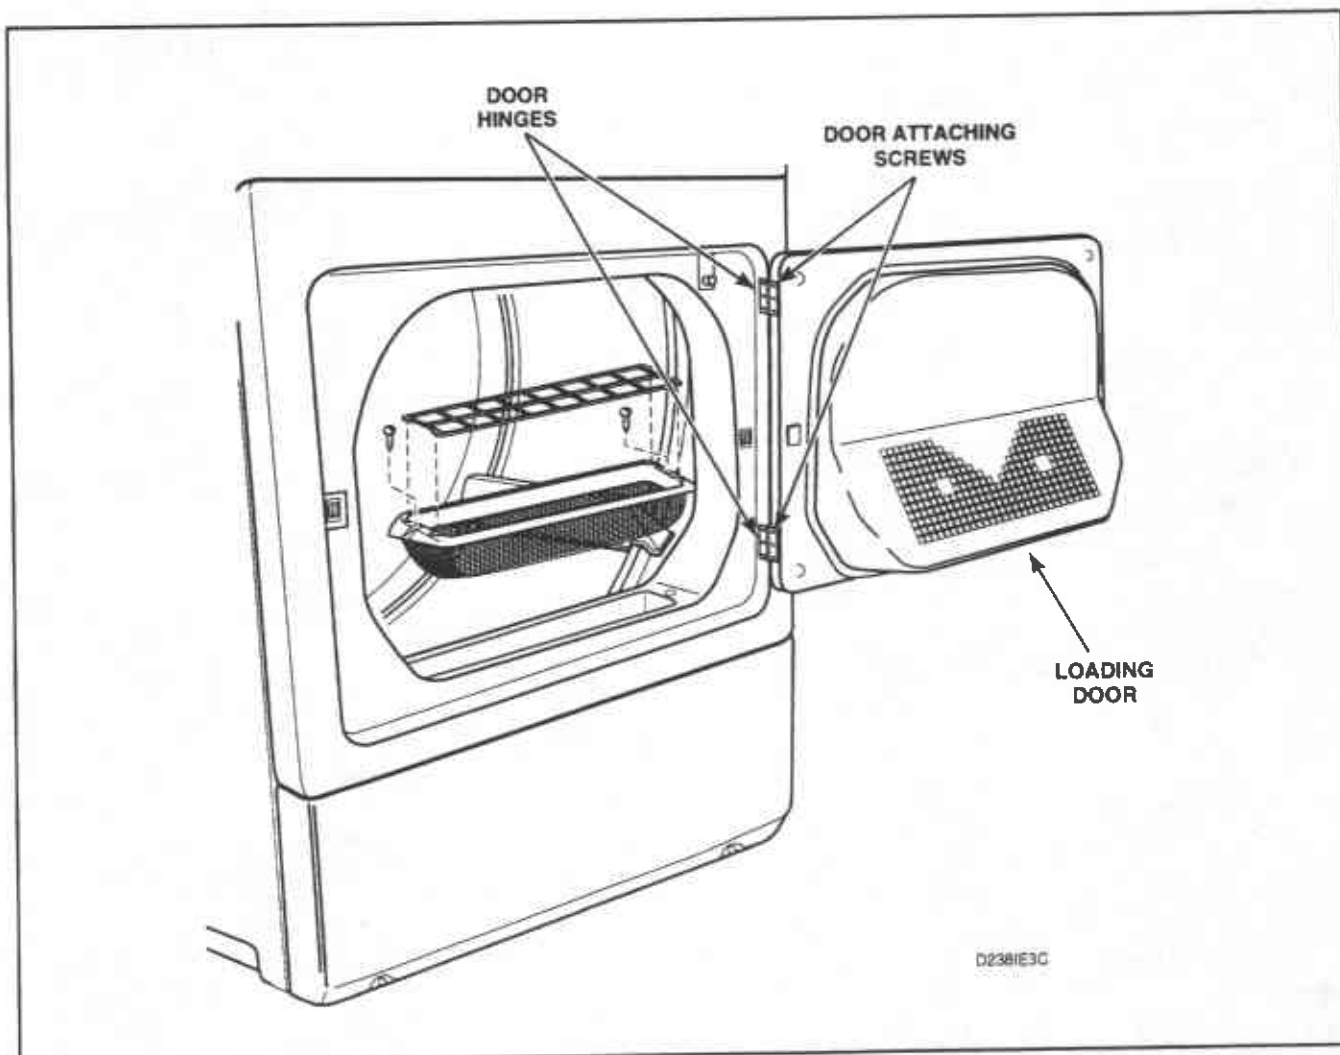

Figure 23
- a. Open loading door and, while supporting door, remove four screws holding door assembly to hinges, *Figure 23*.
- b. Remove four screws holding hinges to front panel, *Figure 23*.